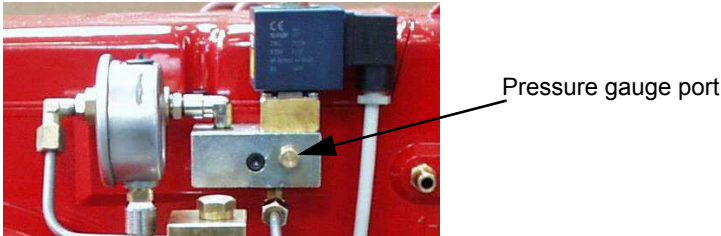
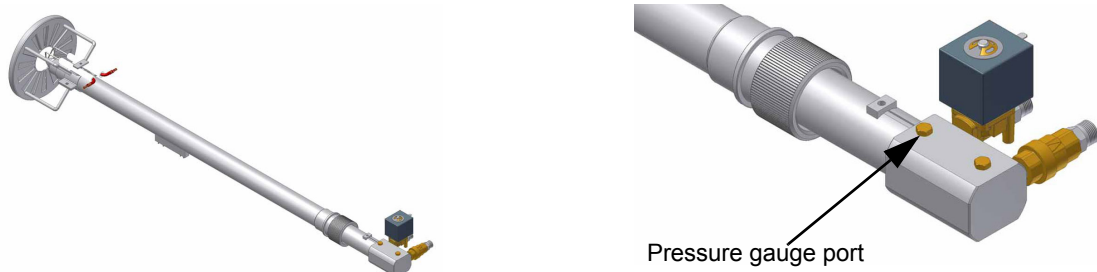

Fig. 12 - Light oil manifold (PG60)
Fig. 13 - Combustion head with light oil gun
- 4 Fig. 12 Fig. 13the nozzle supply pressure is already factory-set and must not be changed. Only if necessary, adjust the supply pressure as follows (see related paragraph);insert a pressure gauge into the port shown on Fig. 12-Fig. 13 and act on on the pump adjusting screw **VR** (see Fig. 11) as to get the nozzle pressure at 20bar (Bergonzo nozzles - see diagram on Fig. 10).